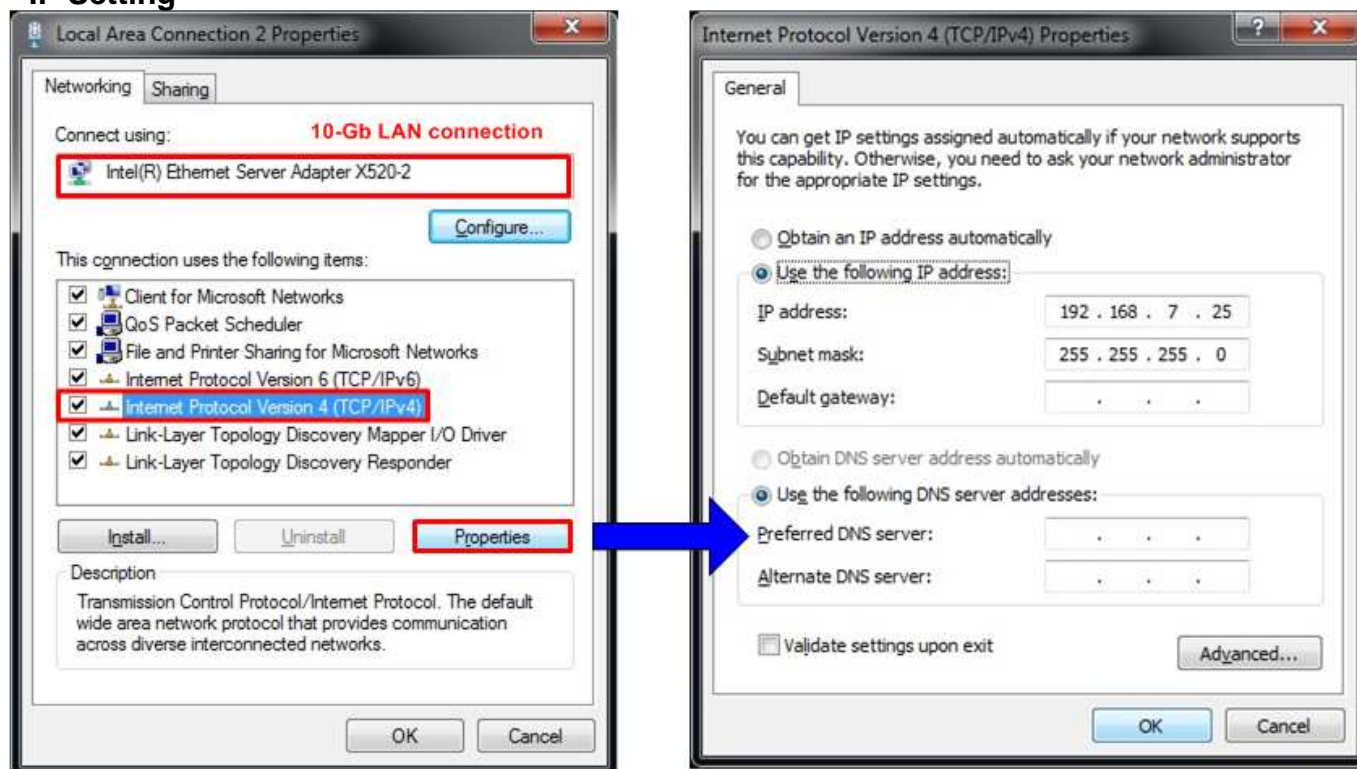

Figure 2 IPv4 Setting
- Open Local Area Connection Properties of 10-Gb connection, as shown in left window of Figure 2.
- Set IP address = 192.168.7.25, and Subnet mask = 255.255.255.0, as shown in right window of Figure 2.